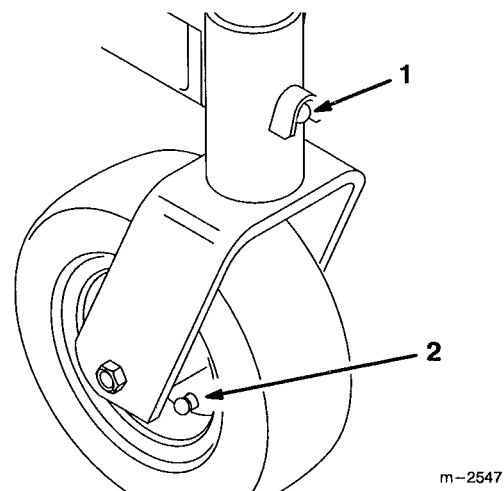

Figure 19
4. Grease the fittings on the carrier frame mounting tubes and castor wheels (Fig. 19).